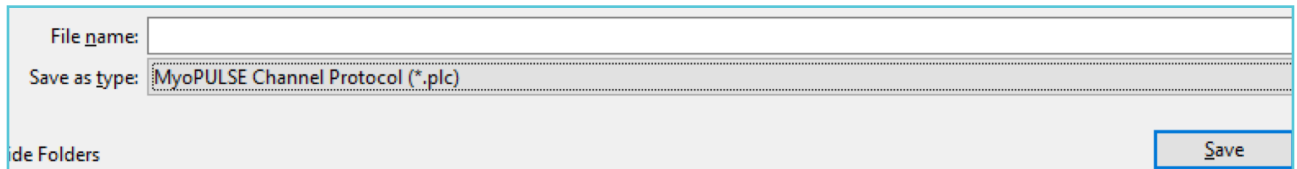

Figure 3.3.4 Save to file option
C) 'Save to file': Will save a single channel stimulation protocol set up to a file (*.plc) that can be loaded into another channel later if needed (figure 3.3.4).